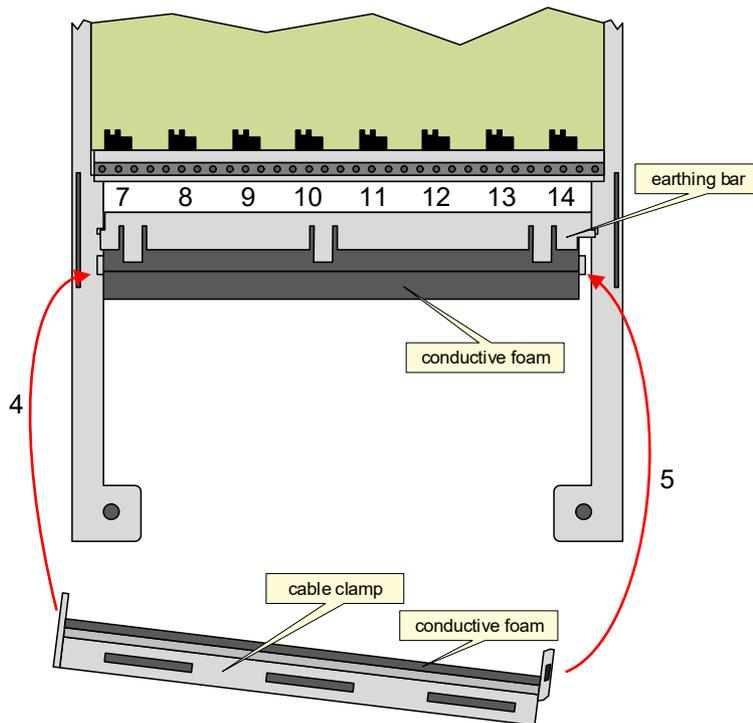

Figure 51: Installation of the cable clamp
1. Snap in the cable clamp and close the earthing bar. For details of this procedure, refer to section 3.8.2 Cable Clamp, Earthing Bar and EMC Clips (on page 55) and Figure 51: "Installation of the cable clamp" (on page 56). Proceed as instructed in the corresponding paragraphs.